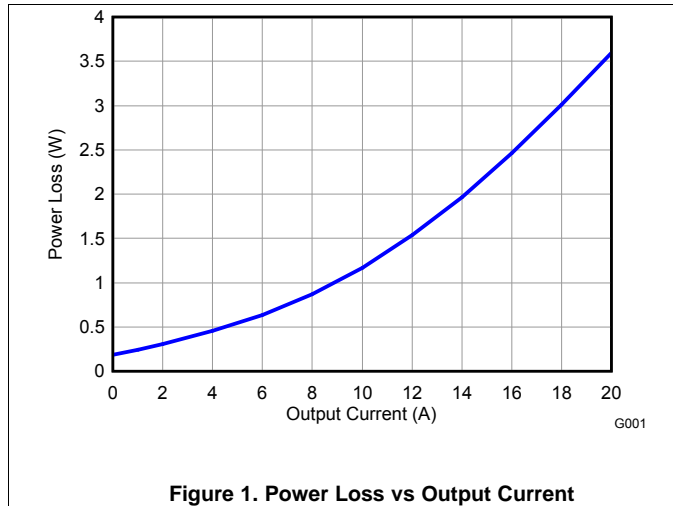

Figure 1. Power Loss vs Output Current
MOSFET centric parameters such as $R_{DS(ON)}$ and Q_{gd} are needed to estimate the loss generated by the devices. In an effort to simplify the design process for engineers, Texas Instruments has provided measured power loss performance curves. **Figure 1** plots the power loss of the CSD86330Q3D as a function of load current. This curve is measured by configuring and running the CSD86330Q3D as it would be in the final application (see **Figure 32**). The measured power loss is the CSD86330Q3D loss and consists of both input conversion loss and gate drive loss. **Equation 1** is used to generate the power loss curve.
The power loss curve in **Figure 1** is measured at the maximum recommended junction temperatures of 125°C under isothermal test conditions.
- Power Loss at 15 A = 2.2 W (Figure 1)